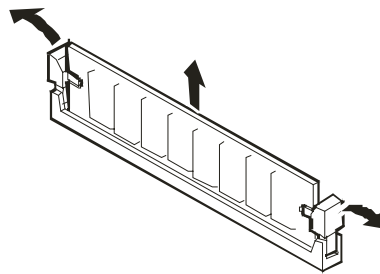

Figure 4-10. Removing a DIMM
6. Gently push the plastic ejector levers out and down to eject a DIMM from its socket. See Figure 4-10.